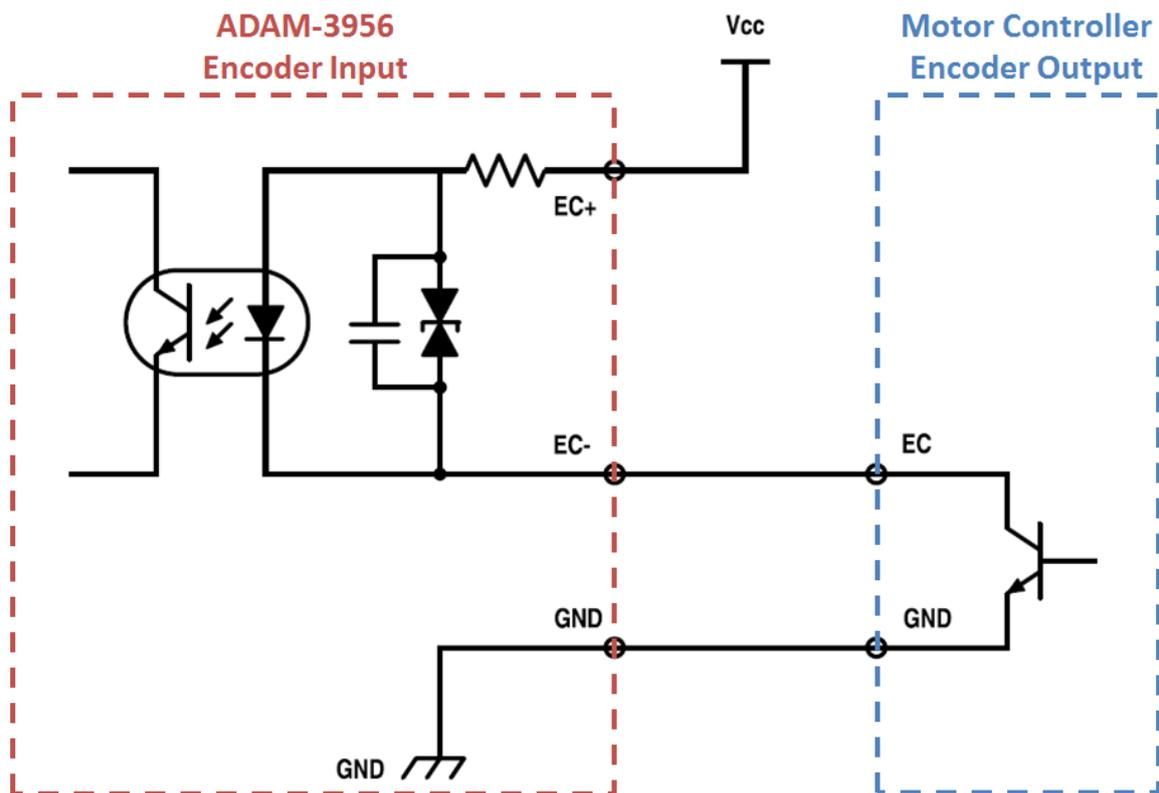

Figure 3. The diagram of encoder wiring connection for one channel (encoder A or B or Z)
3. Motor controller encoder output is CC (Common Cathode, CC or CK) circuit. The Figure 3 shows circuit for one channel. (EC: Encoder Signal; EC+/-: ECA+/-, ECB+/-, ECB+/-)